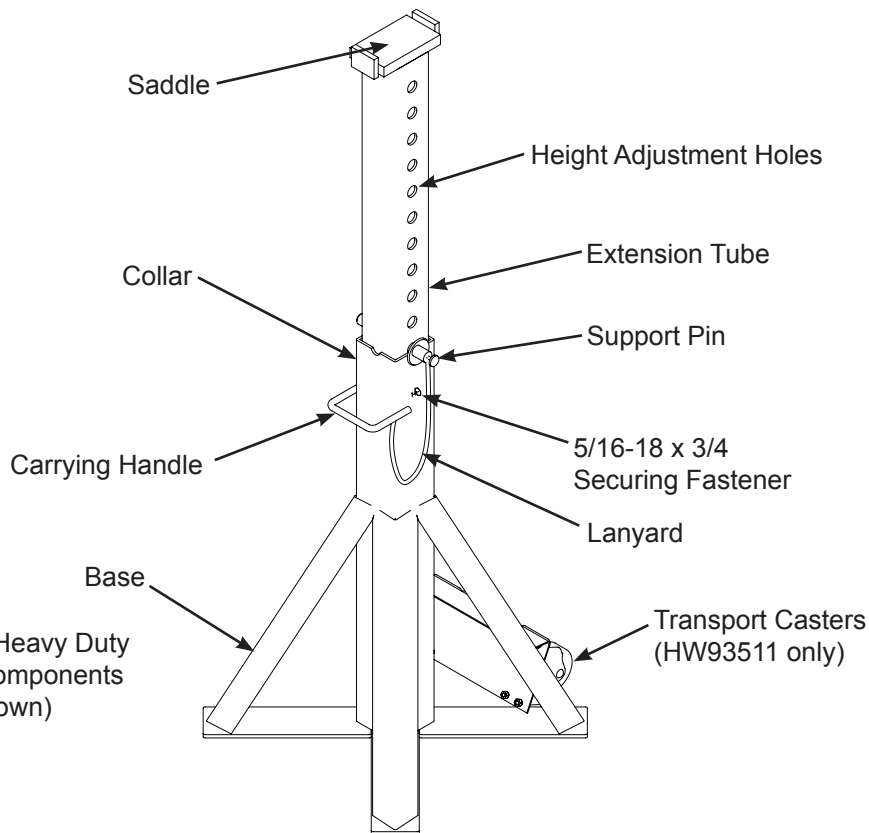

Figure 1 - Hein-Werner Heavy Duty Jack Stand Components (HW93511 shown)
**Assembly** (refer Fig. 1)
1. Make sure all parts are present. If any part is missing or damaged, do not attempt to assemble, install or operate the product. Contact **Hein-Werner Customer Service (816) 891-6390**.